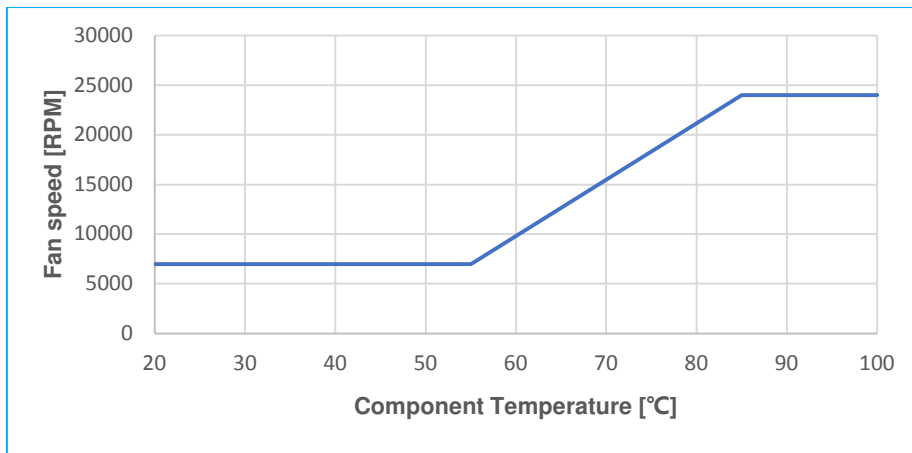

Figure 10. Fan speed versus power stage temperatures
- Component depending Fan Speed curve according to *Figure 10*.